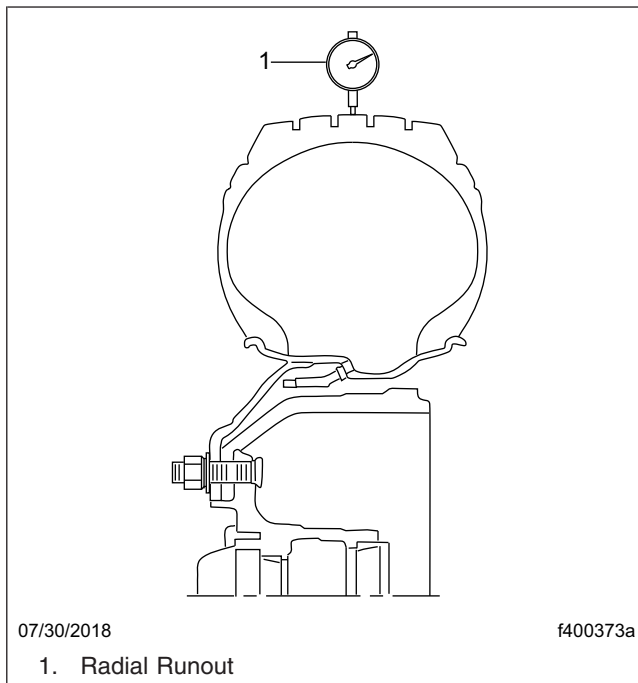

Fig. 11, Radial Runout Check for Tires
- Beginning with the right-front wheel, use a tire runout gauge to check the radial runout. See **Fig. 11**. Write down the measurement for later use to avoid vibration complaints.